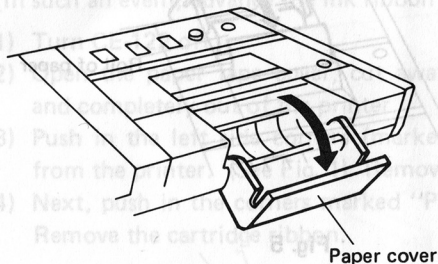

Fig. 1
- (1) Turn the CE-122 off.
- (2) Open the paper cover. (Fig. 1)
- (1) Turn CE-122 off.
- (2) Open the paper tape cover, cut away the paper tape, and then pull the remaining part of the paper forward and completely out of the printer.
- (3) Push in the left side corners (marked "PUSH") of the printer cover with fingers to remove the printer cover from the printer. (See Fig. 1) Remove the printer cover.